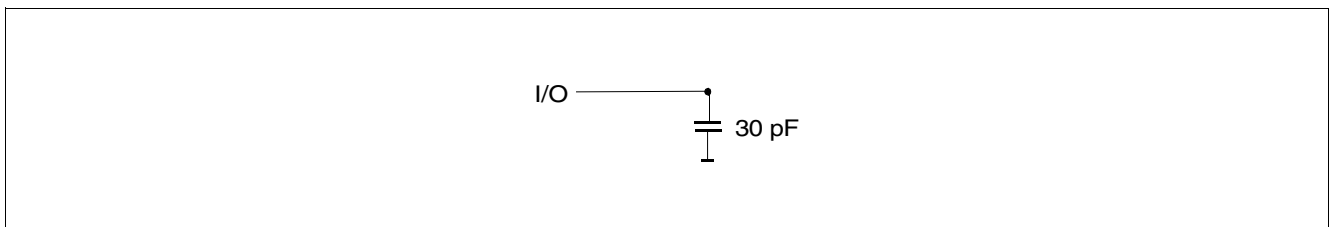

Figure 4 Measurement Conditions for t_{AC} and t_{OH}
- 4) AC timing tests are referenced to the 0.9 V crossover point. The transition time is measured between V_{IH} and V_{IL} . All AC measurements assume $t_T = 1\text{ ns}$ with the AC output load circuit (details will be defined later). Specified t_{AC} and t_{OH} parameters are measured with a 30 pF only, without any resistive termination and with a input signal of 1V/ns edge rate (see Figure 4).